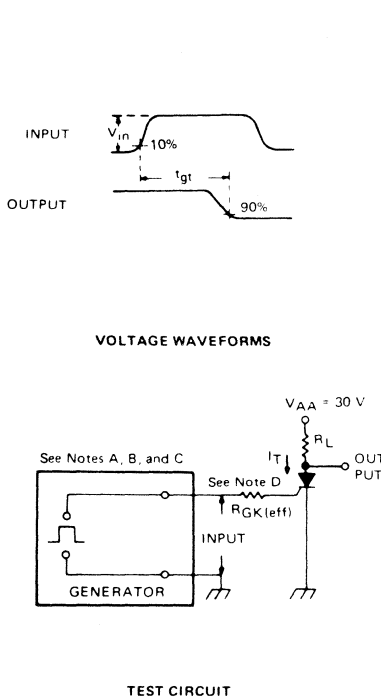

FIGURE 1 – GATE-CONTROLLED TURN-ON TIME
- The input waveform of Figure 1 has the following characteristics: $t_r \leq 40\text{ ns}$, $t_w \geq 20\ \mu\text{s}$.